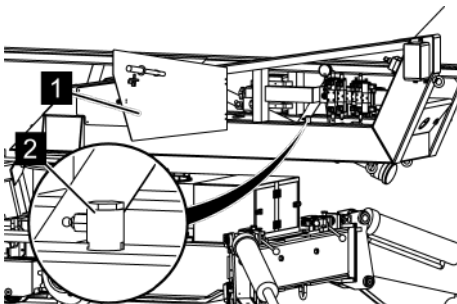

Fig. 153: Slide coupling
9. ➤ Put the slide coupling (Fig. 153/2) back onto the attachment and close the door (Fig. 153/1).